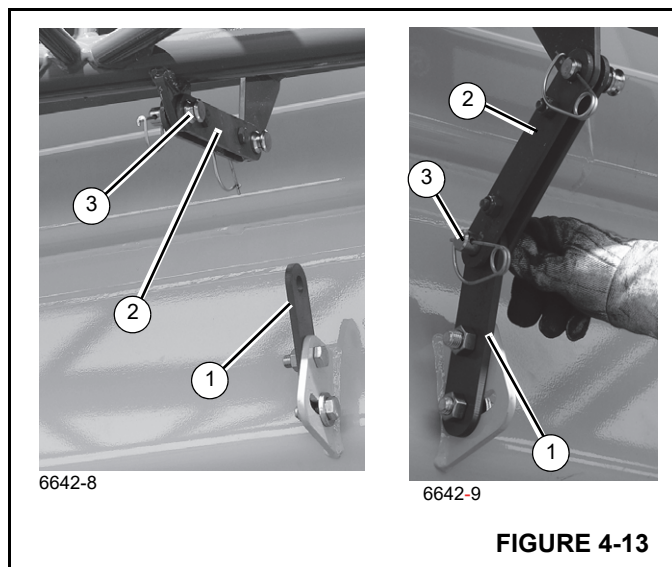

FIGURE 4-13
9. Move locking bar (9, Figure 4-20; 2, Figure 4-13) to boom base attachment bar (1) and install pin (3). Secure with retaining clip.